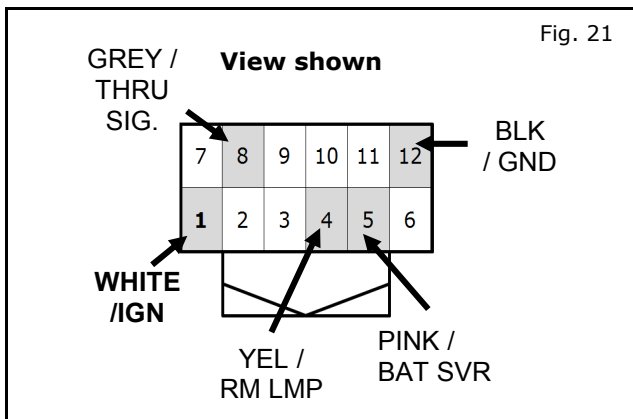

Fig. 21
- a) The accessory service connector pin out is shown in Fig. 21. Connect LED and module wires to accessory connector harness using posi-taps.